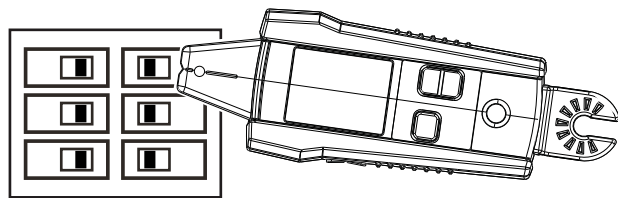

Figure 3.2c: Aligning the Tip Sensor groove with the breaker
2. Align the groove on the Tip Sensor with the breaker lengthwise (See Figure 3.2c).